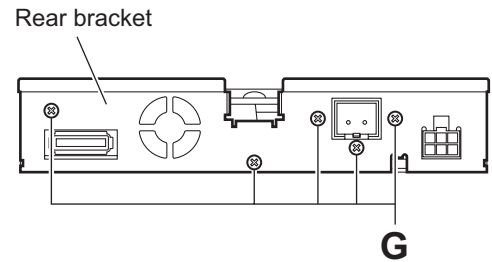

Fig.10
3.1.5 Removing the rear bracket (See Figs.10)